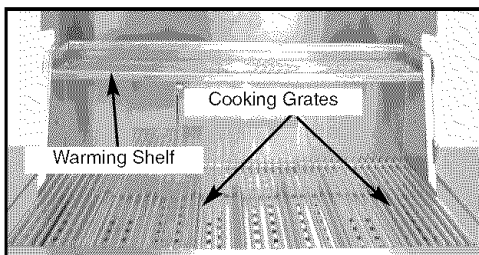

Fig. 6
3. Install cooking grates on the ledges provided on the grill to create your cooking surface. (See Fig. 6)
4. Place warming shelf on support brackets by setting it flat across brackets allowing the two holes to line up with the holes on each bracket. (See Fig. 6)